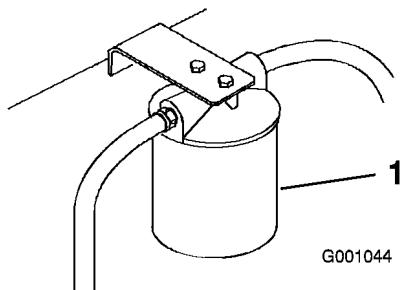

Figure 67
- Place drain pan under filter, remove the old filter and wipe the filter adapter gasket surface clean (Figure 67).